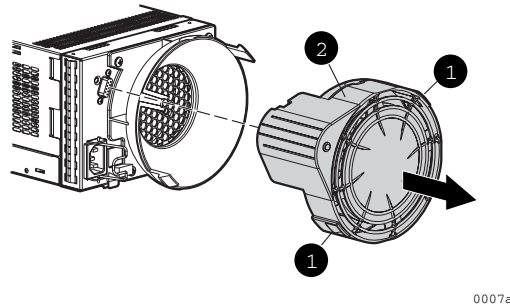

Figure 2 Removing a blower
- While pushing in on the two wine-colored mounting tabs (1, Figure 2), pull the blower (2) away from the power supply.